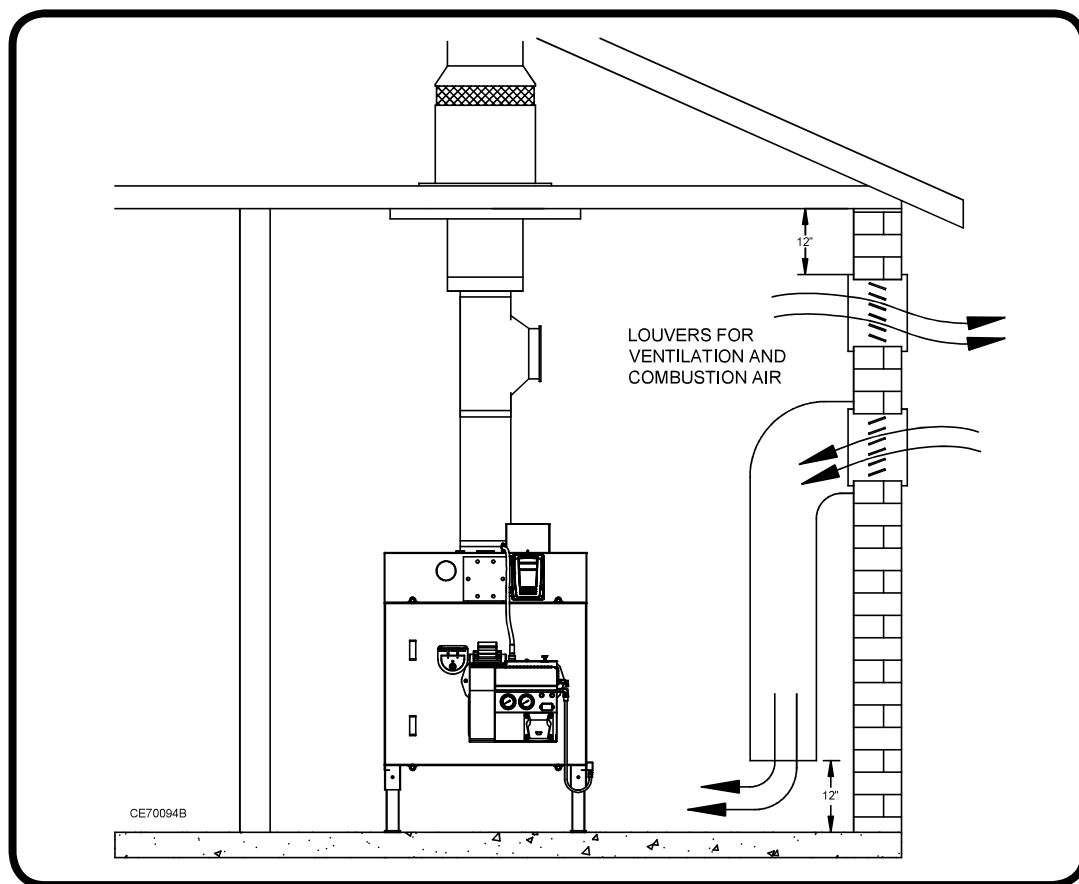

Figure 22: Louvers for Proper Ventilation and Combustion Air
- (1) Confirm all clearances from combustibles as well as clearances for service are followed.
- (2) Make sure the microprocessor boiler control settings are correct for the application, and record all temperature settings and optional functions.
- (3) If the boiler is installed in a tight enclosed room, make sure there is enough make-up air for proper ventilation and combustion air (refer to figure 22).